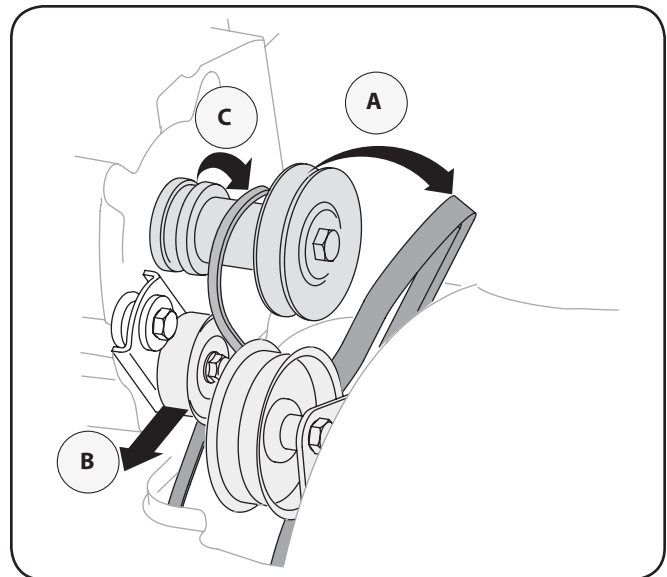

Figure 7-6
- b. Pivot the idler pulley toward the right. See Fig. 7-6.